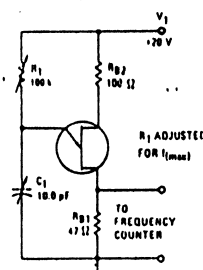

FIGURE 6 — PRR TEST CIRCUIT AND WAVEFORM
- (1) Derate 3.0 mW/ $^\circ\text{C}$  increase in ambient temperature.
- (2) Duty cycle < 1%, PRR = (see figure 6)
- (3) Based upon power dissipation at  $T_A = 25^\circ\text{C}$